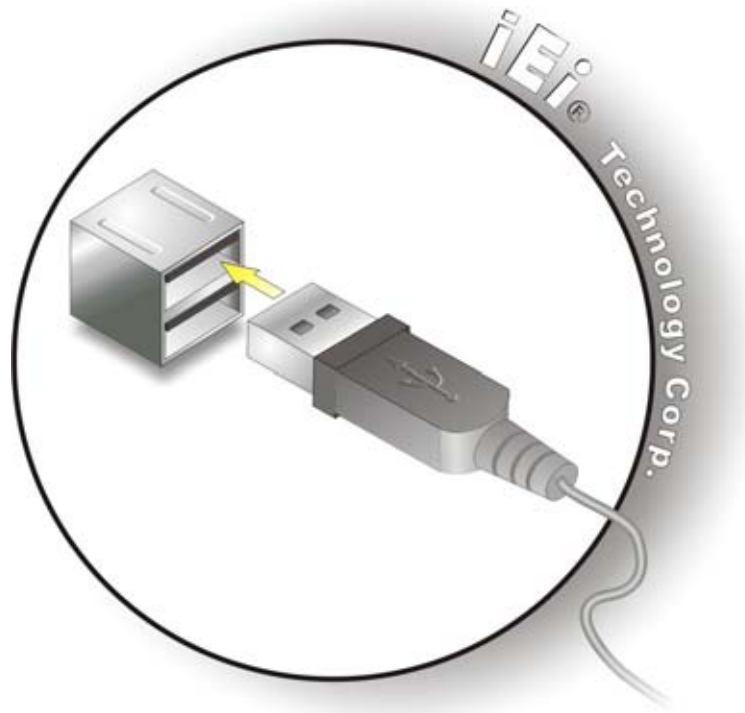

Figure 5-15: USB Connector
Step 2: Insert a **USB Series "A" plug**. Insert the USB Series "A" plug of a device into the USB Series "A" receptacle on the external peripheral interface. See **Figure 5-15**.